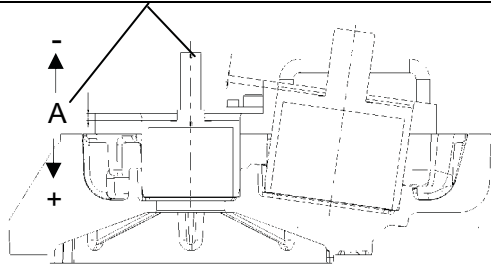

Fig. 15-2
③Set the special tool (Fig.15-2, item1,2,3 and 4) on case B.
④Measure the depth B of individual master (Fig.15-2, item 5) by dial gauge.